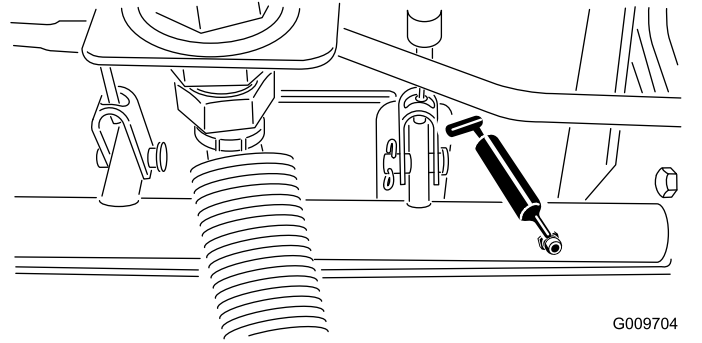

Figure 38
- Brake-shaft pivot bearings (5) as shown in Figure 38